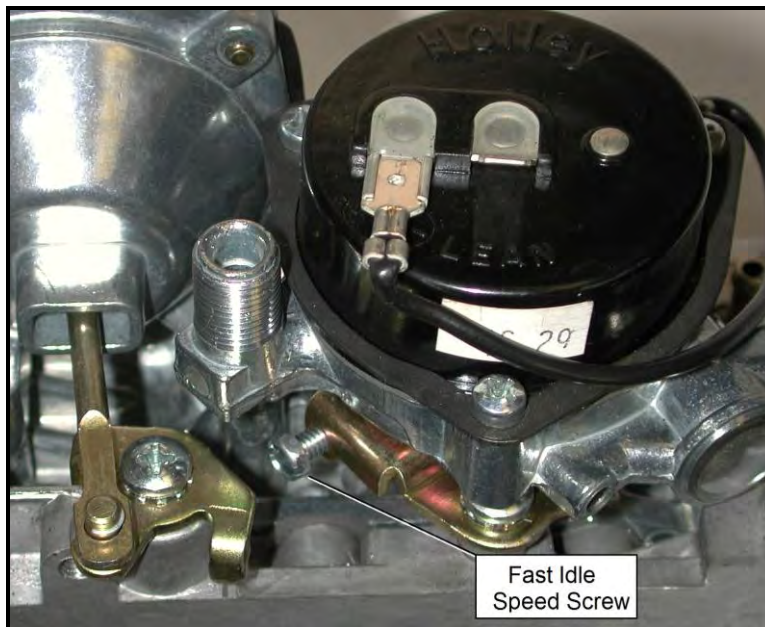

Figure 7
2. If the fast idle RPM is too low or too high for your preferences, SHUT DOWN THE ENGINE! Advance the throttle to wide-open, exposing the fast idle set screw below the choke housing (See Figure 7).